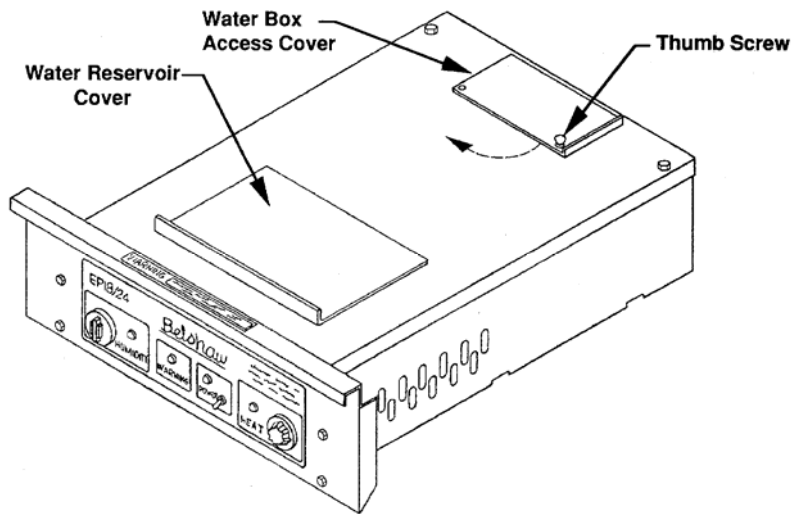

FIGURE 3
1. Lift off water reservoir cover and fill water reservoir (see Figure 3). If necessary, open the lower door(s) and remove screen(s) or tray(s) to access the water reservoir. Do not fill beyond ½" of the top edge. When finished, replace the cover and doors. If equipped with the autofill unit, turn on the water and the filler unit will stop at the correct water level.
- d. Remove water box access cover thumb screw and rotate access cover to open position. (see Figure 3)